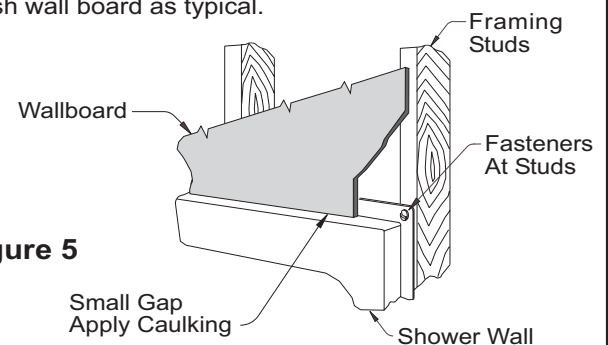

Figure 5
10. Install wallboard along unit. Wallboard should be installed so it covers the mounting flanges and mounting screws or nails. See *Figure 5*